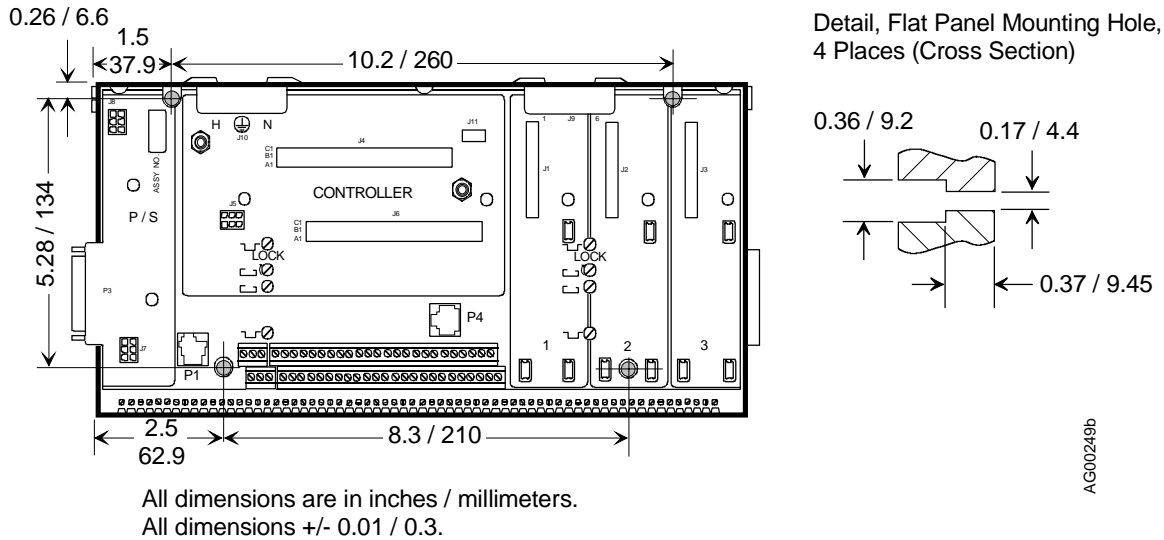

FIGURE 8-3 Flat Panel Mounting Dimensions
- Flat Panel Mounting Pattern..... See Figure 8-3